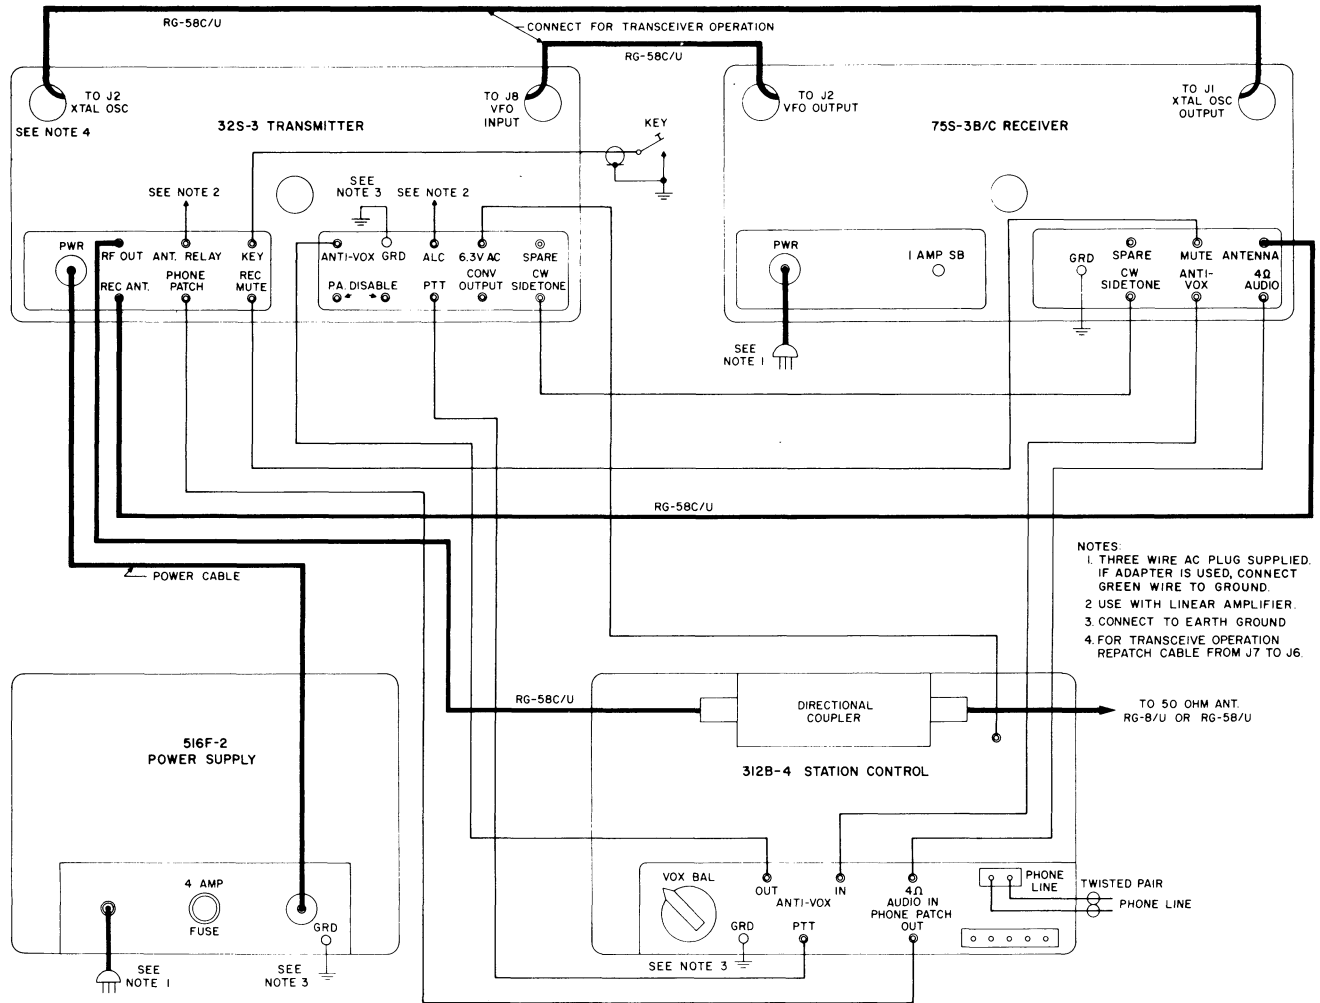

Figure 1-2. Station Interconnections
1.2.2 CABLING WITH 32S-3 TRANSMITTER. Figure 1-2 shows a complete station interconnection for a 75S-3B/C Receiver, 32S-3 Transmitter, and 312B-4 Station Control. The RG-58C/U cables indicated are
a. Connect the 32S-3 and 75S-3B/C as shown in figure 1-2.